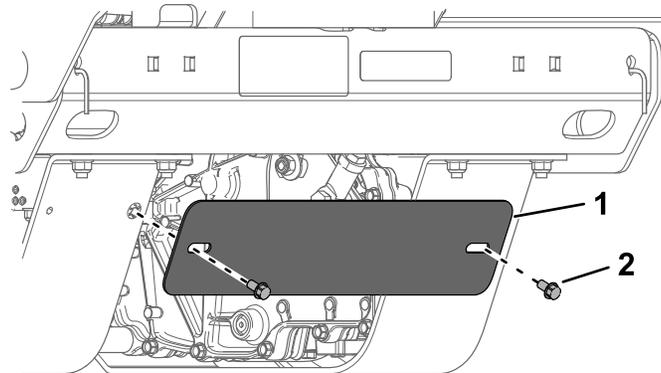

Figure 56
4. Remove the 2 bolts and guard plate (Figure 56).